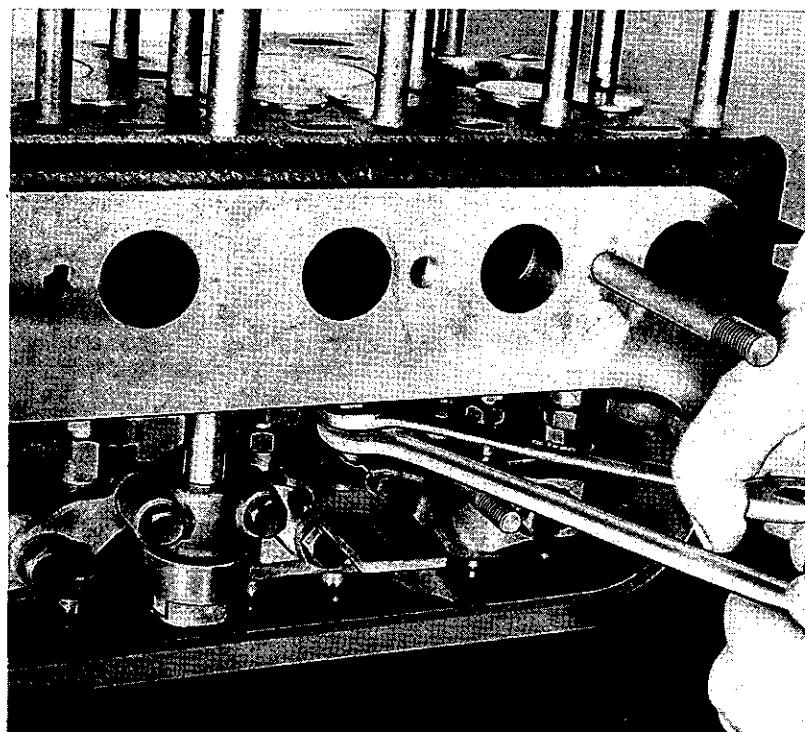

Fig. 21. Adjusting valve tappets with two spanners and tappet loc.
2. Slacken off the lock nut on the tappet which is being adjusted with a suitable spanner ($\frac{1}{2}$ " A/F) whilst preventing the tappet from rotating by either the engagement of a spanner on its two flats ($\frac{13}{32}$ " A/F) or the employment of suitable wedge pieces inserted between the two tappets as shown in Fig. 21. Having slackened off the locknut another spanner should be used to rotate the lock nut, ($\frac{7}{16}$ " A/F) until a clearance of .015" is provided. Having obtained the correct clearance the lock nut should be secured, whilst preventing any movement of the tappet and adjuster screw. After tightening the locknut recheck the clearance with a .015" clearance gauge and ensure that this gauge is a push fit between the valve stem and adjuster